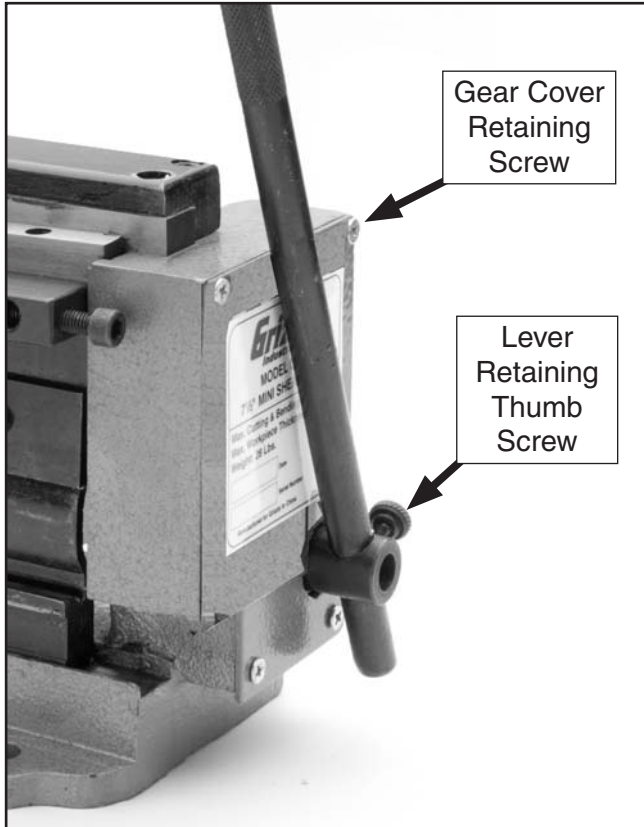

Figure 32. Gear cover removal.
3. Unscrew the work lever retaining thumb screw and then remove the lever (**Figure 32**).
4. Remove the four gear cover retaining screws, and remove the cover (**Figure 32**).